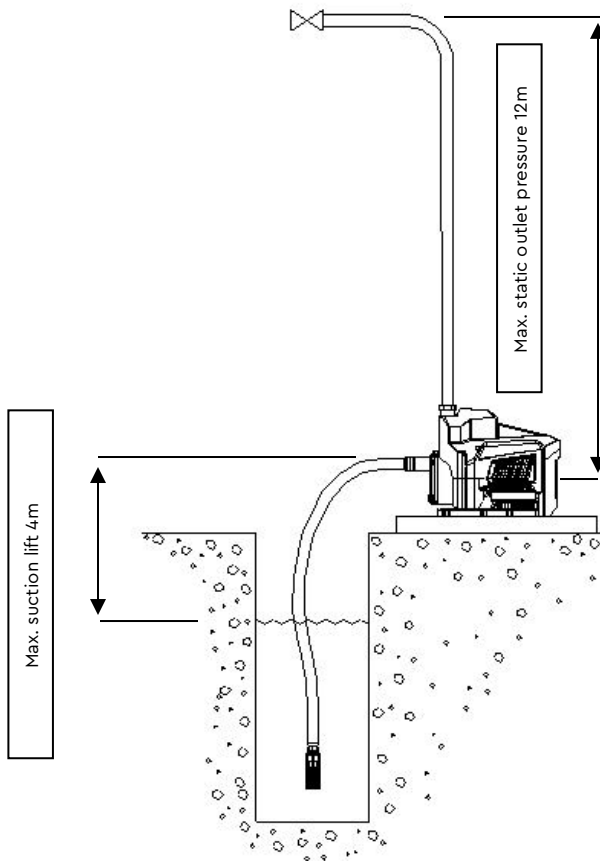

Fig 3.
- 2.3. Before deciding where to locate the unit, check to ensure the static outlet head does not exceed the maximum requirements 12 metres (Ref fig 3).